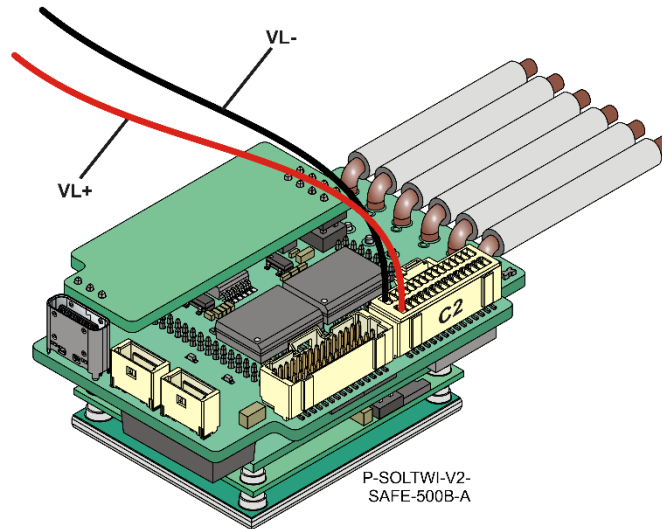

Figure 13: Connecting the Control Supply Wires
3. Connect the VL+ and VL- wires to the terminals on the servo-drive as shown in Figure 13.